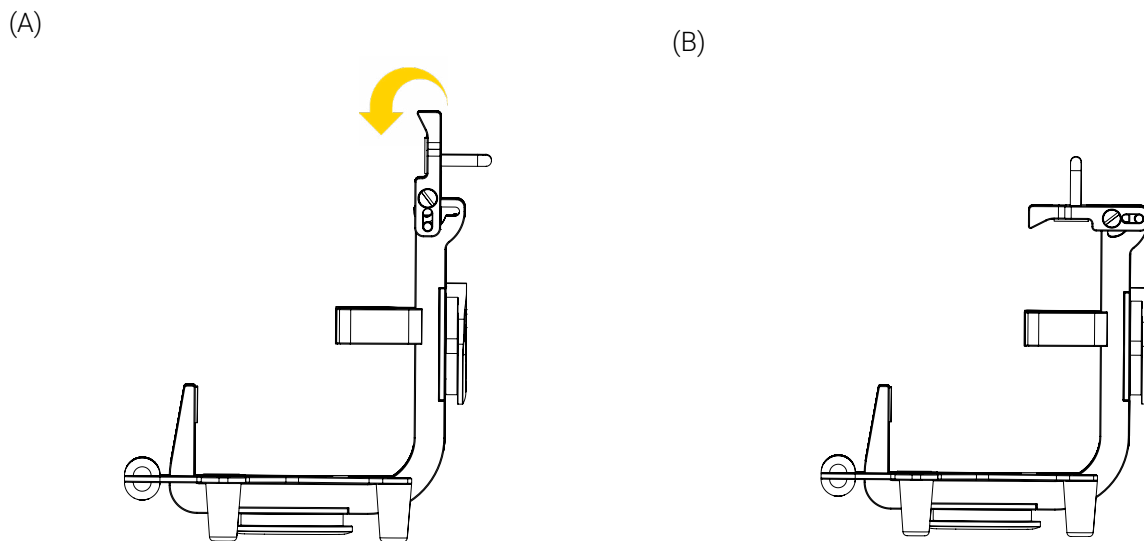

Figure 10: Closing and locking the support bracket
3. Flip the top of the support bracket over towards the front and press it until it is locked and secured (Figure 10).